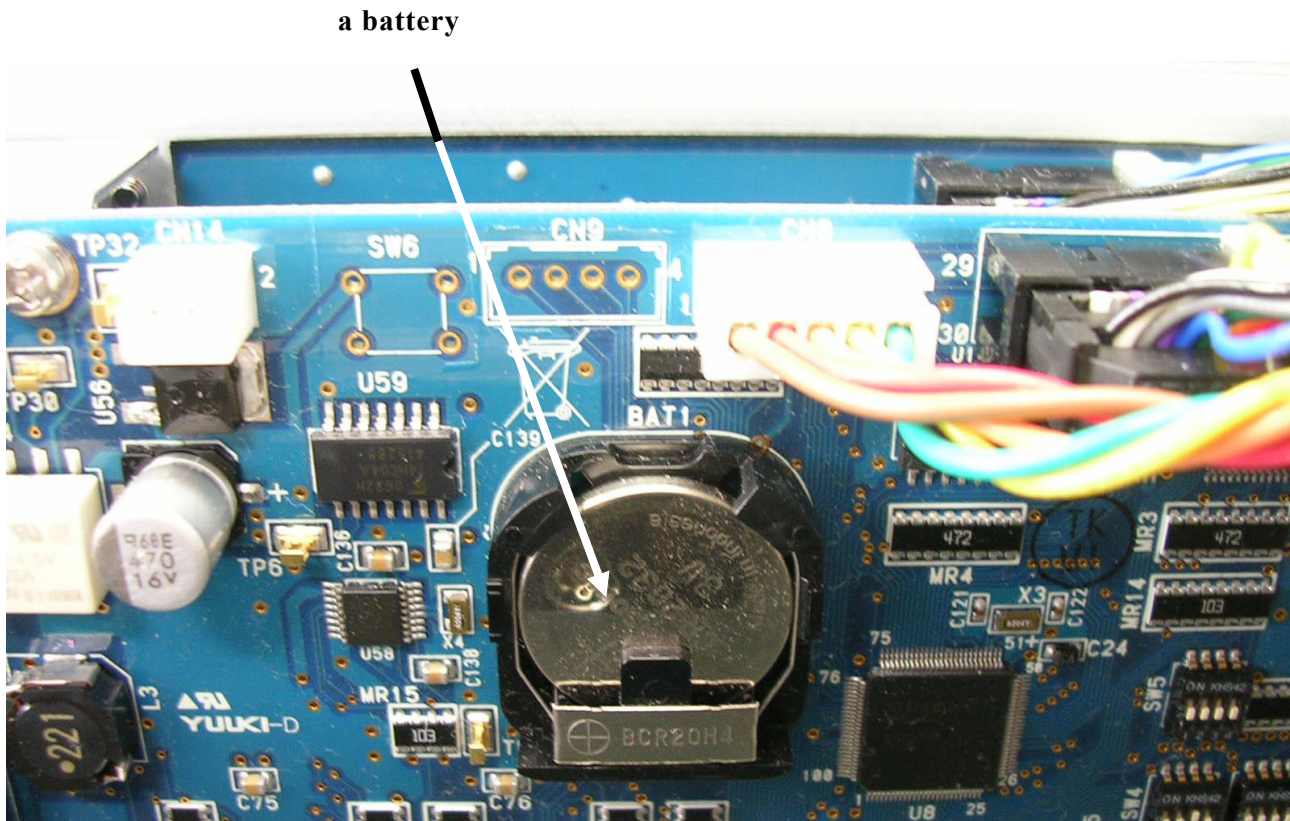

Figure- 27 Replacement of a battery
- (1) Shutdown the monitor, and remove the power supply cable for safety.
- (2) Remove the upper cover.
- (3) Remove the used old button battery from the holder shown in Figure-27, and replace a new one to the holder.
- (4) Put the upper cover back.
- (5) After turn on the power supply, reset the time of display of the monitor. Refer to section 6.8 "Common parameter setting (CPS 12 Time)".